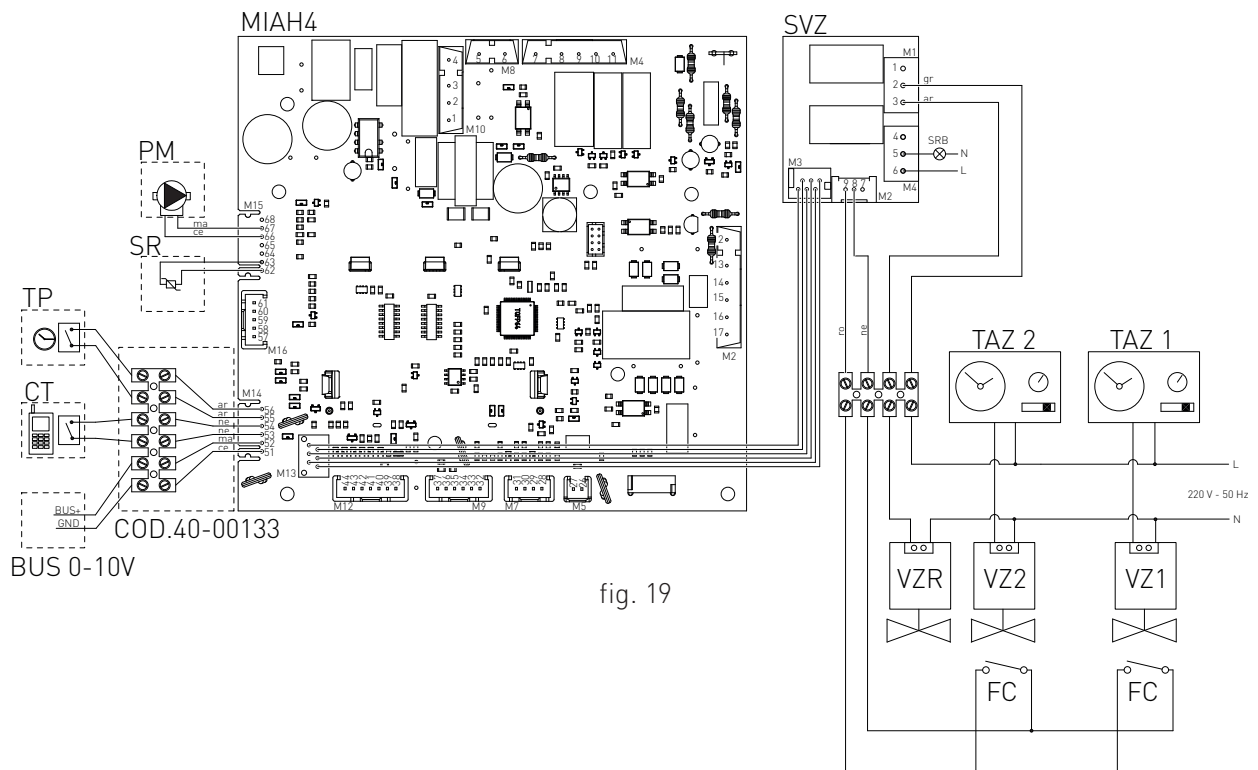

fig. 19
- > After removing the crankcase, connect the items below to the electronic board (see fig. 19):